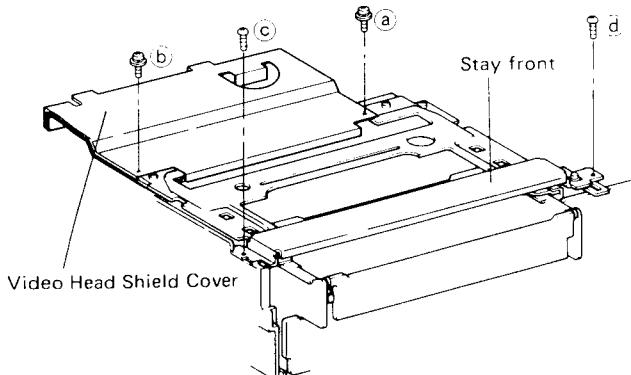

Fig. 3-1
- 2) Remove the two screws (① and ②) retaining the video head shield cover and remove the two screws (③ and ④) retaining the stay front as shown in Fig. 3-1.
- 6) Unclamp lead wire on the cassette housing as shown in Fig. 3-1.
- 6) Attach the stay front and the video head shield cover as shown in Fig. 3-1.